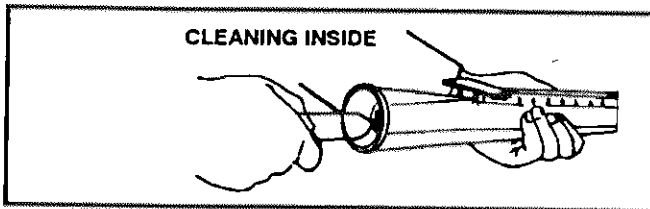

FIGURE 28
- 15—Clean inside of each burner with a bottle cleaning brush. See figure 28.